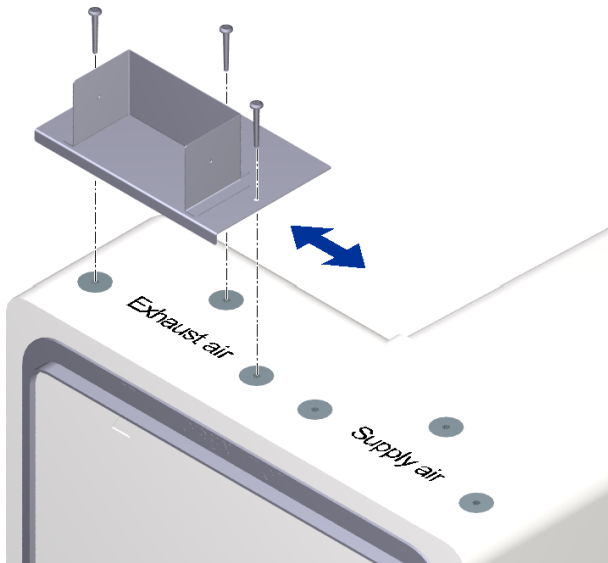
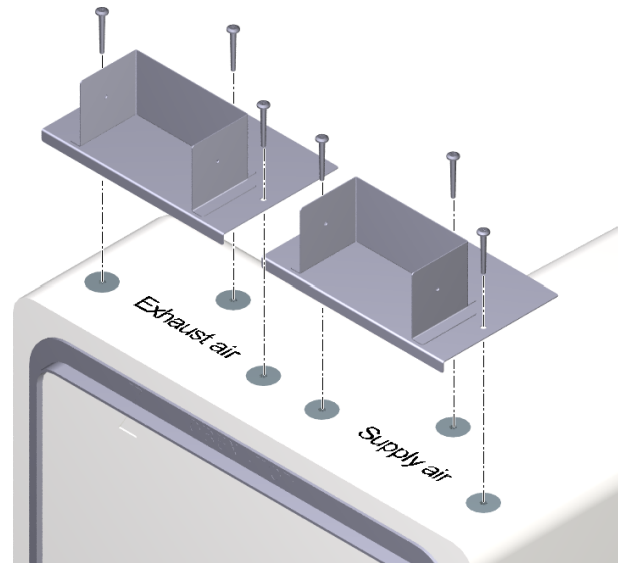

Fig. 4: M-WRG-M/MB-FR75(63)/1, Fixing the fixing plate for exhaust air or supply air
Fig. 5: M-WRG-M/MB-FR75(63)/2, Fixing the fixing plates for exhaust air and supply air
- ▶ Use the Spax screws to fix the fixing plate (see Fig. 4 and Fig. 5).